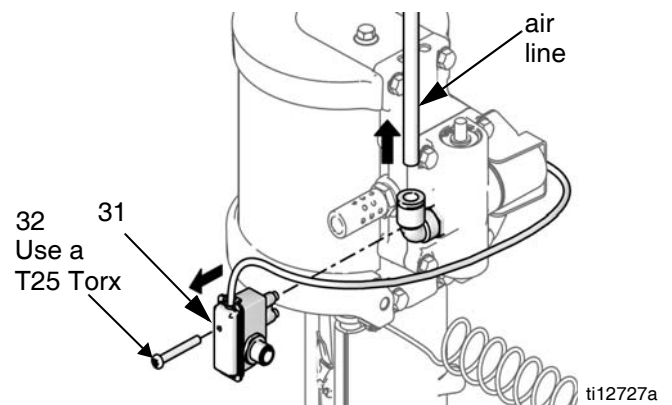

FIG. 3: Reed switch assembly & air line removal
1. **For motors with DataTrak:** Remove screw to disconnect the reed switch from the air valve. See FIG. 3, page 9.
2. Use a 10 mm socket wrench to remove four screws (18). Remove the air valve (17) and gasket (16*◆).
4. Remove four screws (18) and remove the manifold (15*) and two gaskets (14*).
5. Use a 10 mm socket wrench to remove the pilot valves (19) from the top and bottom cover.